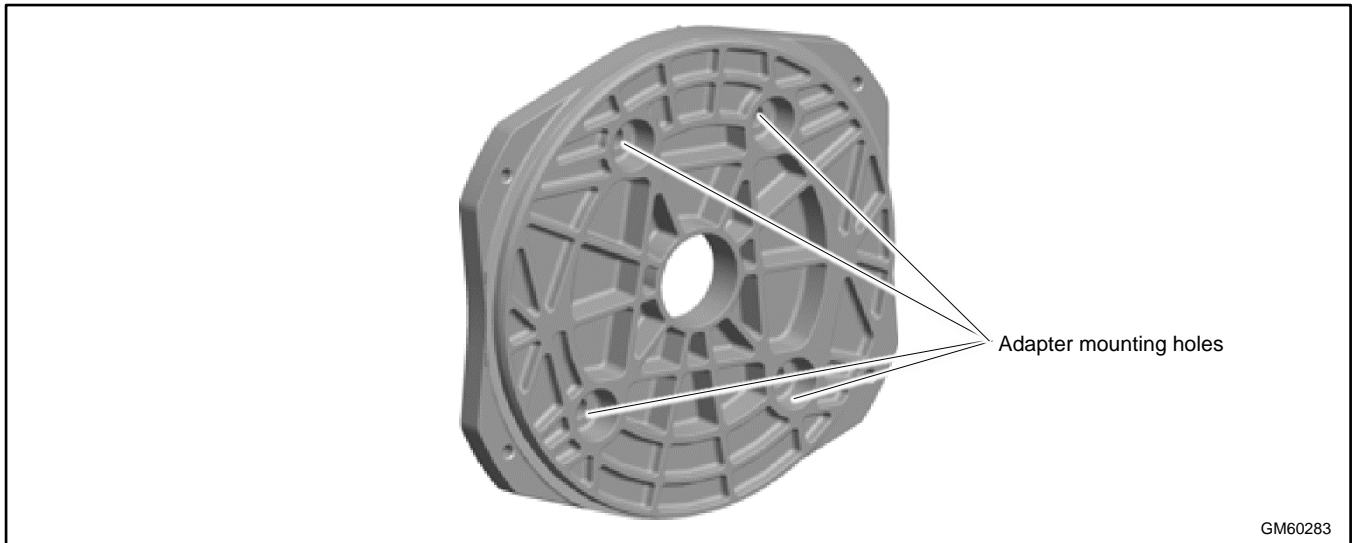

Figure 128 Generator Adapter (14RCA)
34. 14RCA only: Remove the four generator adapter mounting bolts to remove the generator adapter, if necessary. See Figure 128.